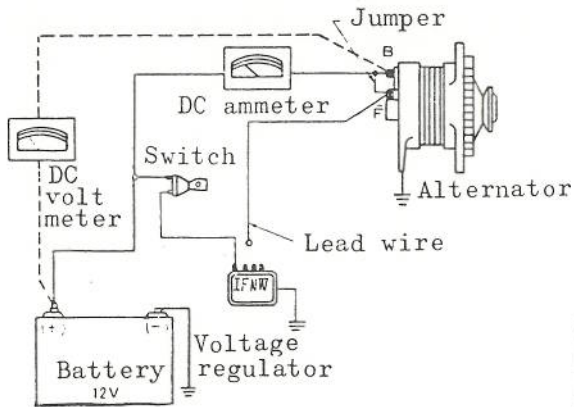

Fig. 10-116
a) Connect ammeter and volt meter into circuit illustrated in Fig. 10-116.